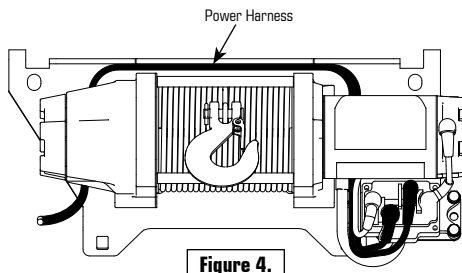

Figure 4.
5. After removing the bumper, prepare the winch assembly by removing it from packaging and arrange the pre-assembled power harness as shown in Figures 4 & 6.